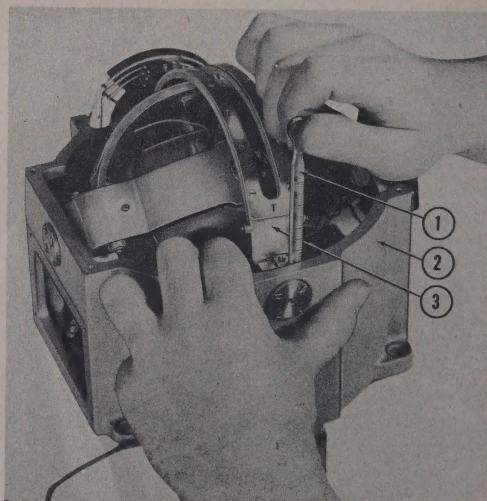

Figure 219 — Checking End Play of Guide Channel
(e) (See figure 219.) Use a taper gage (1) or thickness gage to check the end play of the counter-balance guide channel (3) on the gudgeon pins by first pushing the channel as far as it will go one way, measuring the clearance between the channel (3) and